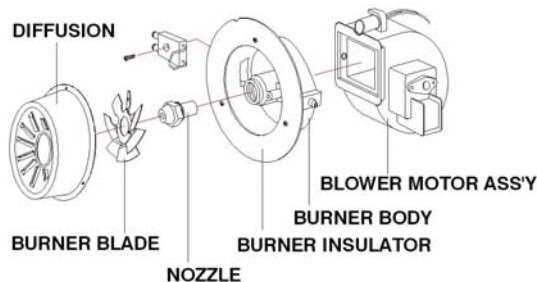

Figure 8. Nozzle Maintenance
- To clean dirt from nozzle, blow compressed air through nozzle front. It may be necessary to soak nozzle in clean 1-K kerosene to help loosen any particles (**Figure 8**).